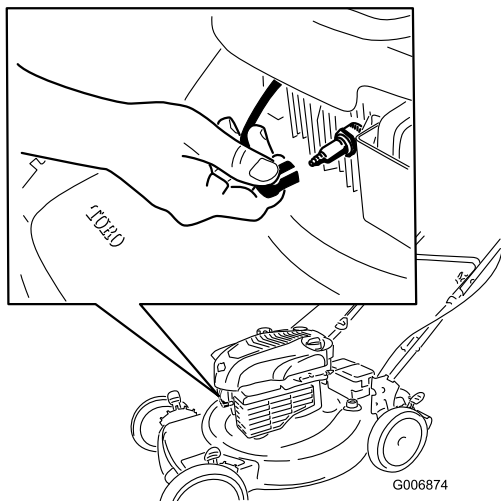

Figure 23
2. Disconnect the spark plug wire from the spark plug and hook it onto the retaining post (Figure 23) before performing any maintenance procedure.